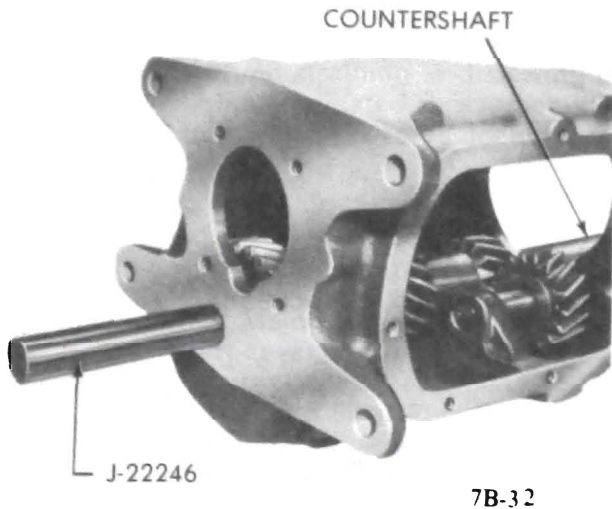

Figure 7B-32 - Installing Countergear Shaft
4. Install the rear bearing retainer. Spread snap ring in the retainer to allow the snap ring to drop around rear bearing. See Figure 7B-33. Press on end of main-
**7B-31****Figure 7B-31 - Installing Front Bearing Retainer Seal**